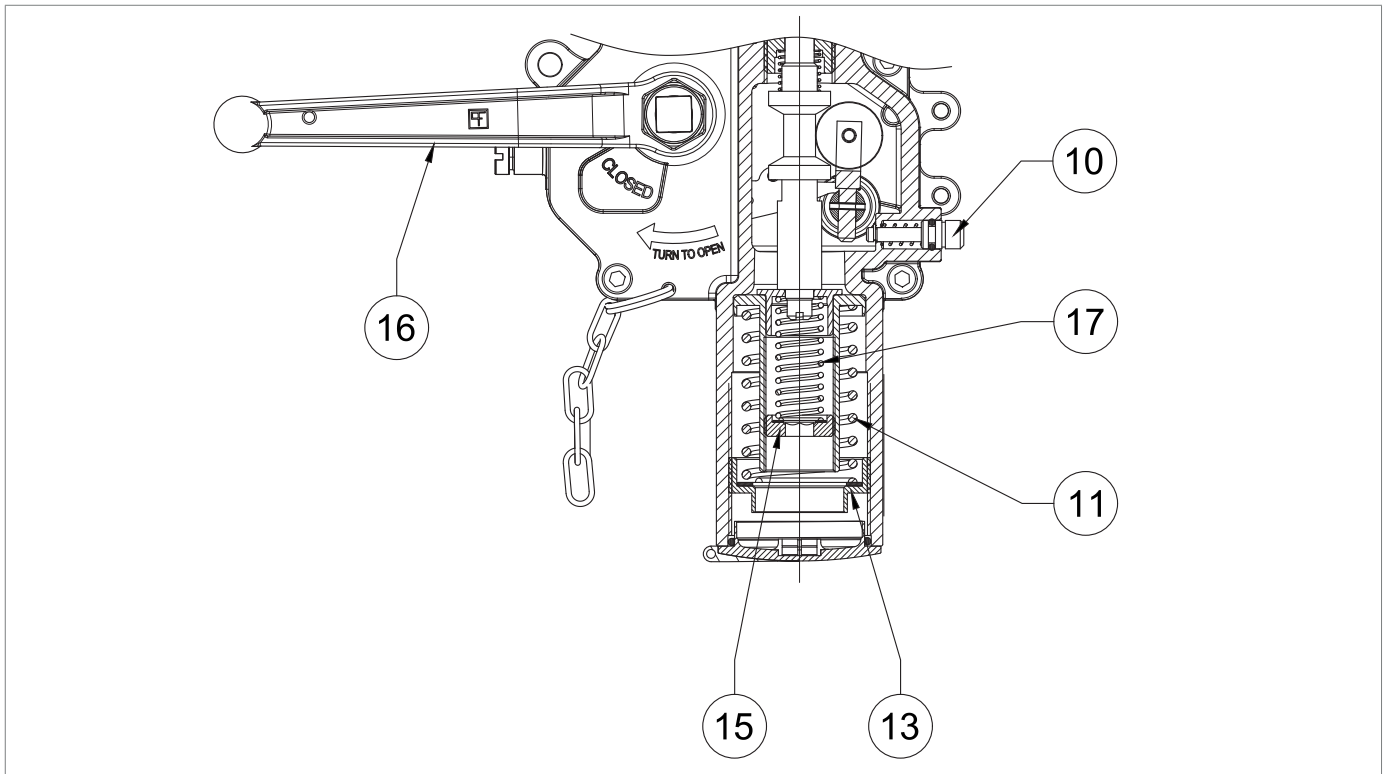

Fig. 8.12. Calibration of SN pressure switches
2	<p>Check that the slam-shut valve (3) is in the closed position.</p> <p>! NOTICE! If the slam-shut valve (3) is in the open position, close it using the manual button (Fig. 8.12,ref. 10).</p>